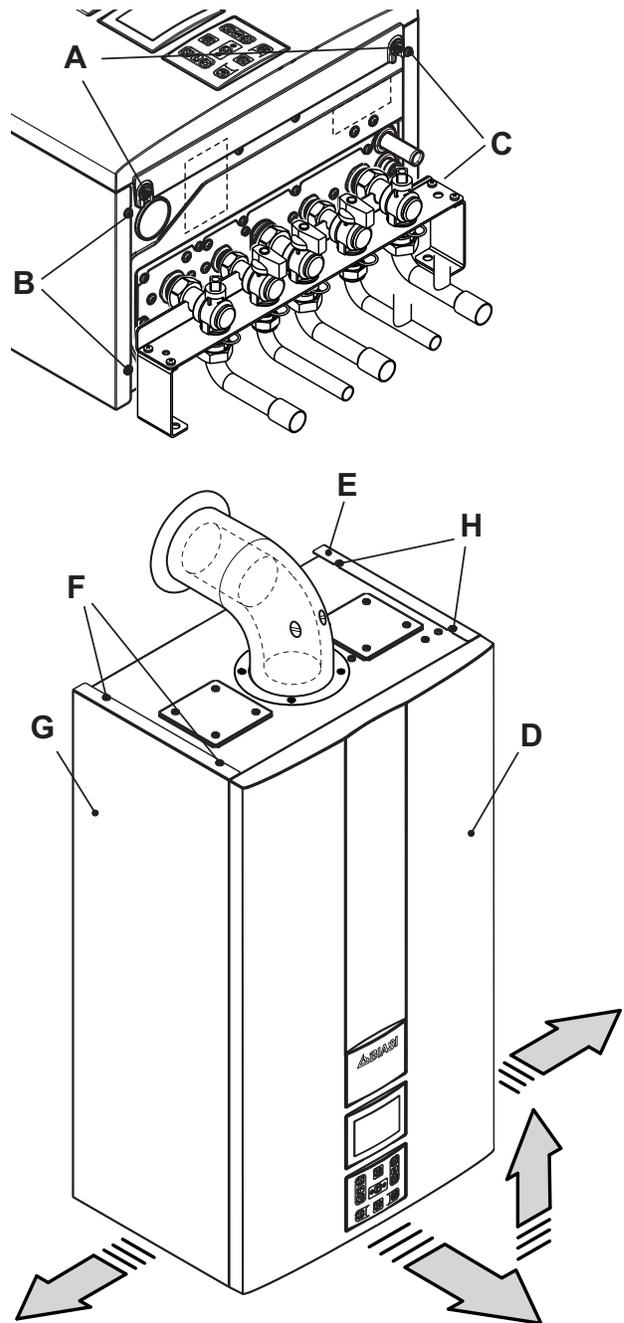

Fig. 9.6
panel D by pulling it and pushing it towards the top so that it is freed from the top housings (Fig. 9.6).
Loosen screws "B - F" and "C - H" in Fig. 9.6 and remove the two side panels E and G by pulling towards the outside.
- Lock in place the panel D with the appropriate screws A (Fig. 9.6).